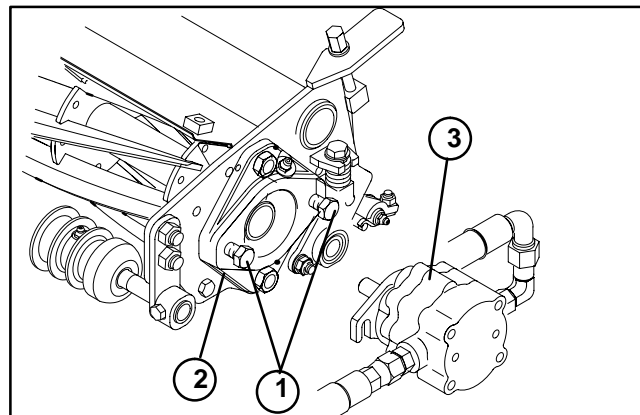

Figure 36
3. Loosen flange head screws that secure the hydraulic motor to the bearing housing. Rotate motor clockwise, and remove motor (Fig. 36).
8. Install hydraulic motor to bearing housing as follows (Fig. 36).